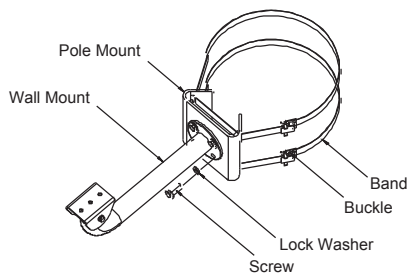

Figure 2: Securing the LTC 9213/01 with an LTC 9212/00, LTC 9215/00 or an LTC 9215/00S
4. For model LTC 9213/01 with an LTC 9212/00, LTC 9215/00, or an LTC 9215/00S, secure the wall mount to the pole mount using the four (4) 8 mm screws and lock washers provided. Use the four larger holes that are in a square pattern around the center (see *Figure 2*).